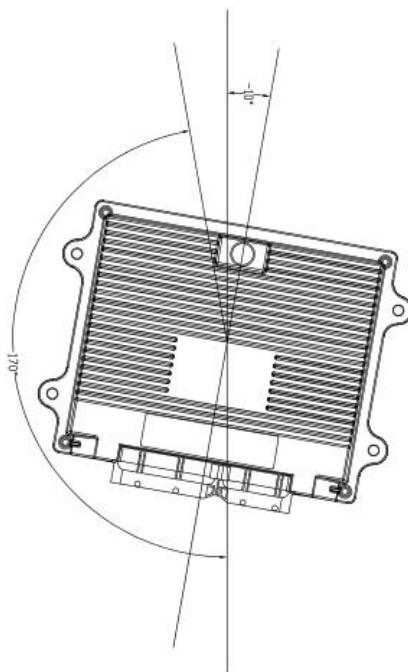

Figure 13 Vertical Installation Angle
7. FCU should be installed in the horizontal and vertical position according to the connector downwards and maintain a certain angle to prevent water from entering the connector. In the horizontal direction, the recommended installation angle is -170° to -10°, as shown in Figure 12 below. In the vertical direction, the recommended installation angle is -170°~ -10°, as shown in Figure 13 below.